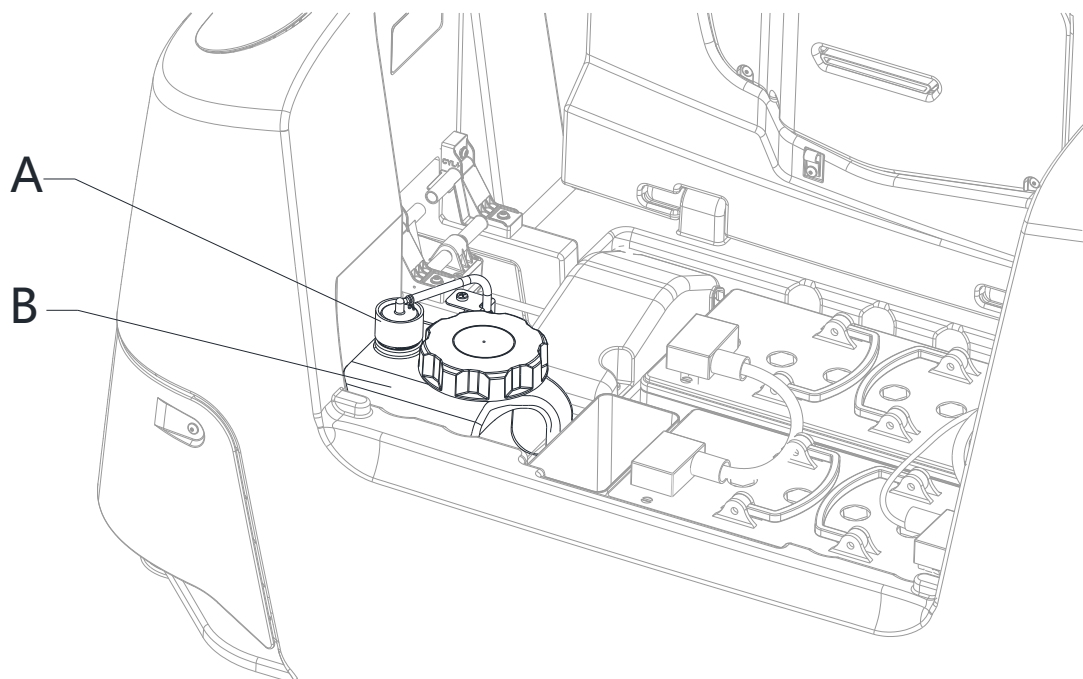

Figure 18
3. Lift the cover (2) and check that the recovery tank (3) is empty; if not, empty it using the drain hose (18).
4. Close the cover (2).
5. Grasp the handle (6) and carefully lift the tank (3).
6. Unscrew the cap (A, Fig. 18) from the detergent tank (B).
7. Remove the detergent tank (B).
9. Replace the detergent tank (B) as shown in the figure, then refit the plug (A).